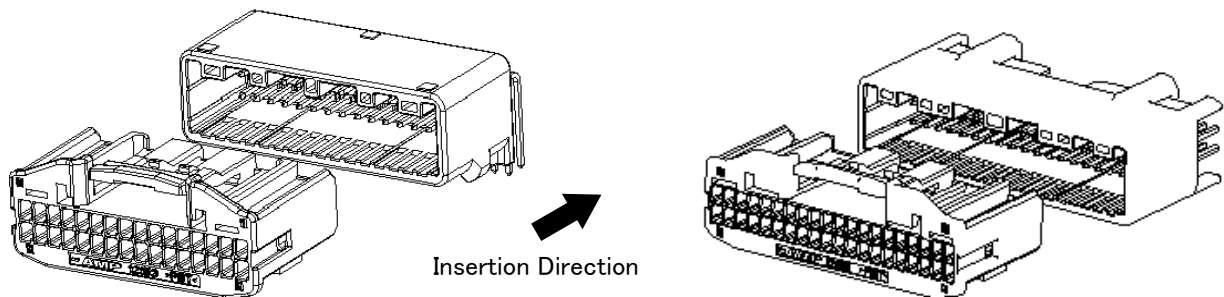

Fig.15
- (3) Insert the proper female housing into the male housing straight with same direction as shown in Fig.15. The operation is finished when you hear the click sound and can not insert further. When you can not insert the housing, do not insert by force, and check the items in (1), (2).